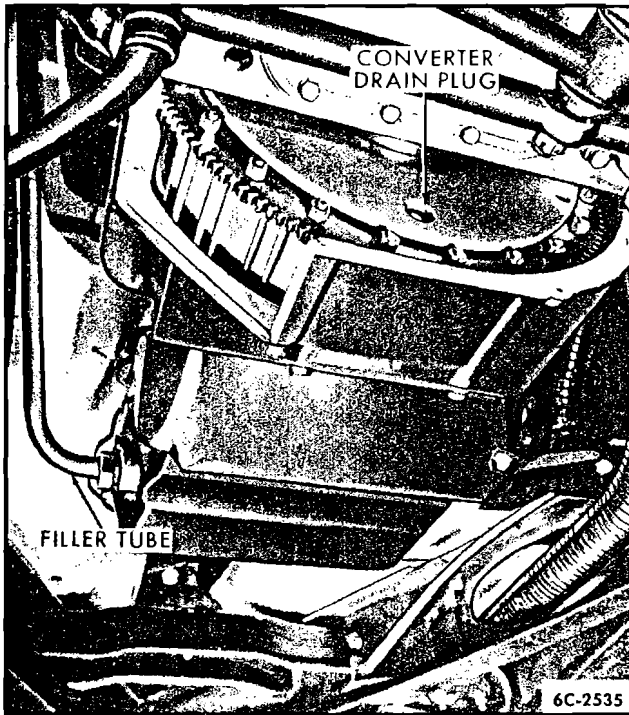

Fig. 12—Transmission Filler Tube and Converter Drain Plug
- b. Drain converter by removing one drain plug, then rotate converter 180° and remove the second drain plug. See figure 12.
- e. Add five (5) quarts of automatic transmission fluid type "A".
- f. Start engine and allow to idle approximately two minutes, then add four (4) quarts of fluid and bring transmission to operating temperature.